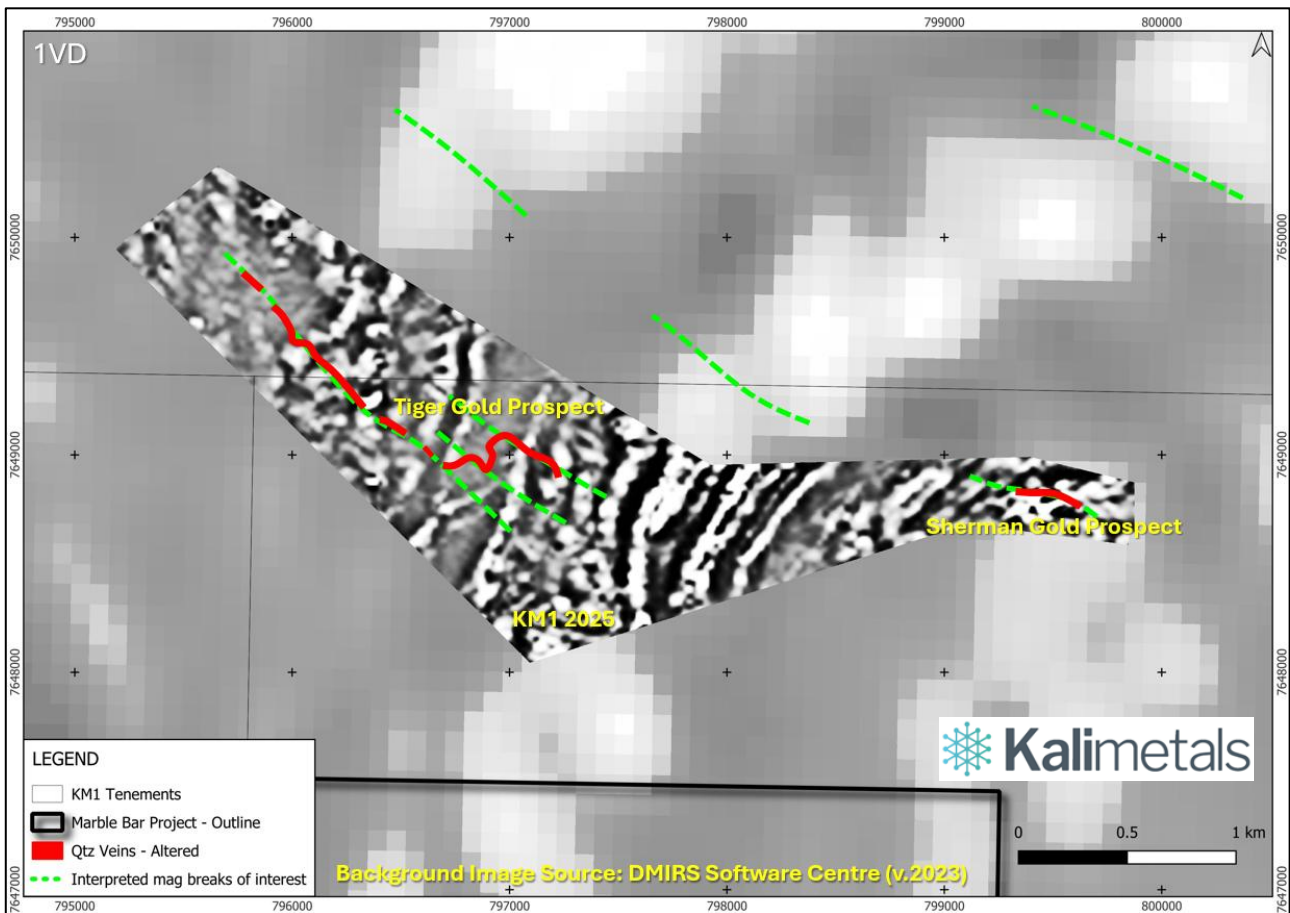

Figure 4. Geophysical results map: the first vertical derivative of TMI RTP on background of publicly available DEMIRS data
- A high-resolution UAV magnetic survey has been completed to better understand the geological structures hosting the gold mineralisation (Refer Figure 4)
In June 2025, Kali commissioned Pegasus Airborne Systems to acquire a high-resolution drone magnetic survey over ~4 km² of the area covering both the Tiger and Sherman Gold Prospects. The survey comprised 163 line-km of survey at 25m spacing between the survey lines (Refer Figure 4). Gold mineralisation over the Project area correlates with breaks in magnetic features, as well as with anomalies in the hyperspectral (ASTER) quartz index. This integrated analysis was used to identify a new target area located between the Tiger and Sherman Gold Prospects, which is currently being investigated in the field.